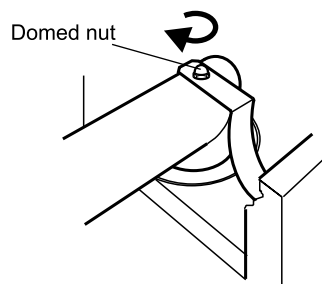

Fig. 21
- 6 **Cased models** - Ensure that the flexible air tube hanging bracket is positioned correctly. See Fig. 21.
- 7 Turn the domed nut of the flue elbow clamp clockwise until the elbow is clamped to the boiler. Tighten the domed nut using a spanner. See Fig. 21.